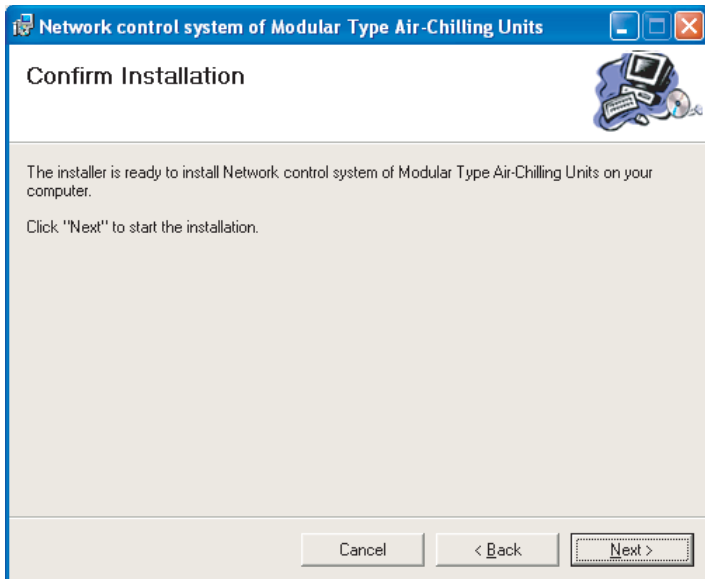

Fig. 2-27
3) Installation window as Fig. 2-27, click “Next” to continue: